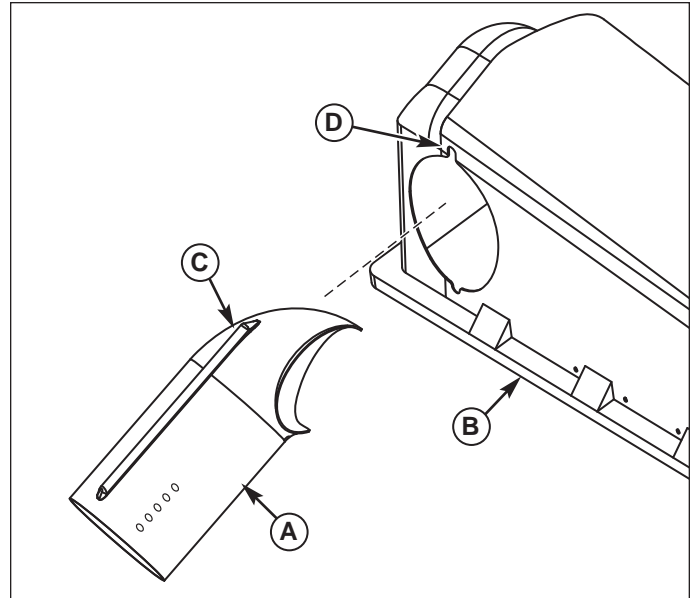

Figure 13. Install Upper Tube to Cover
1. Slide the upper tube (E, Figure 13) into cover (B) aligning ridge (C) with cutout (D) as shown.